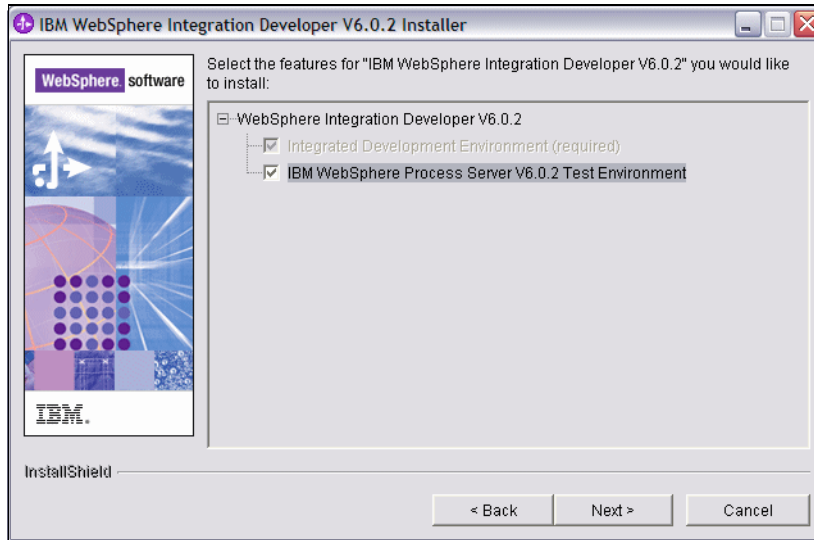

Figure A-3 Installing the integrated test environment
- ▶ In the features panel, select *Integrated Test Environment* (Figure A-3).